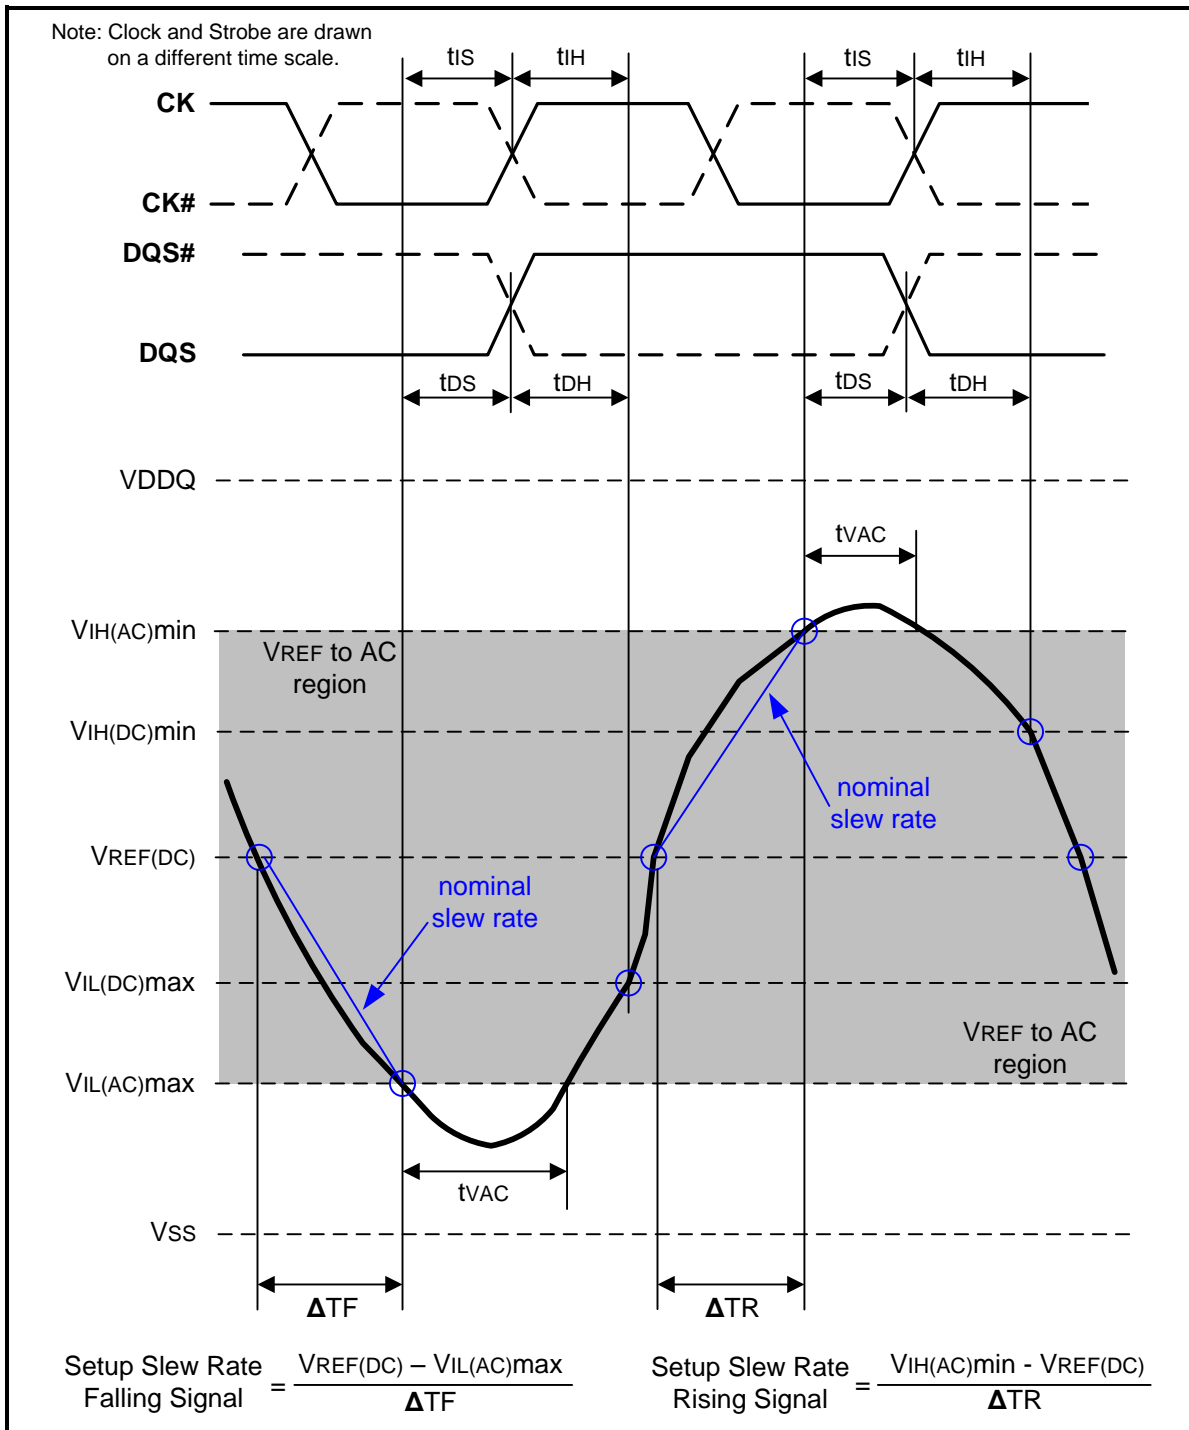
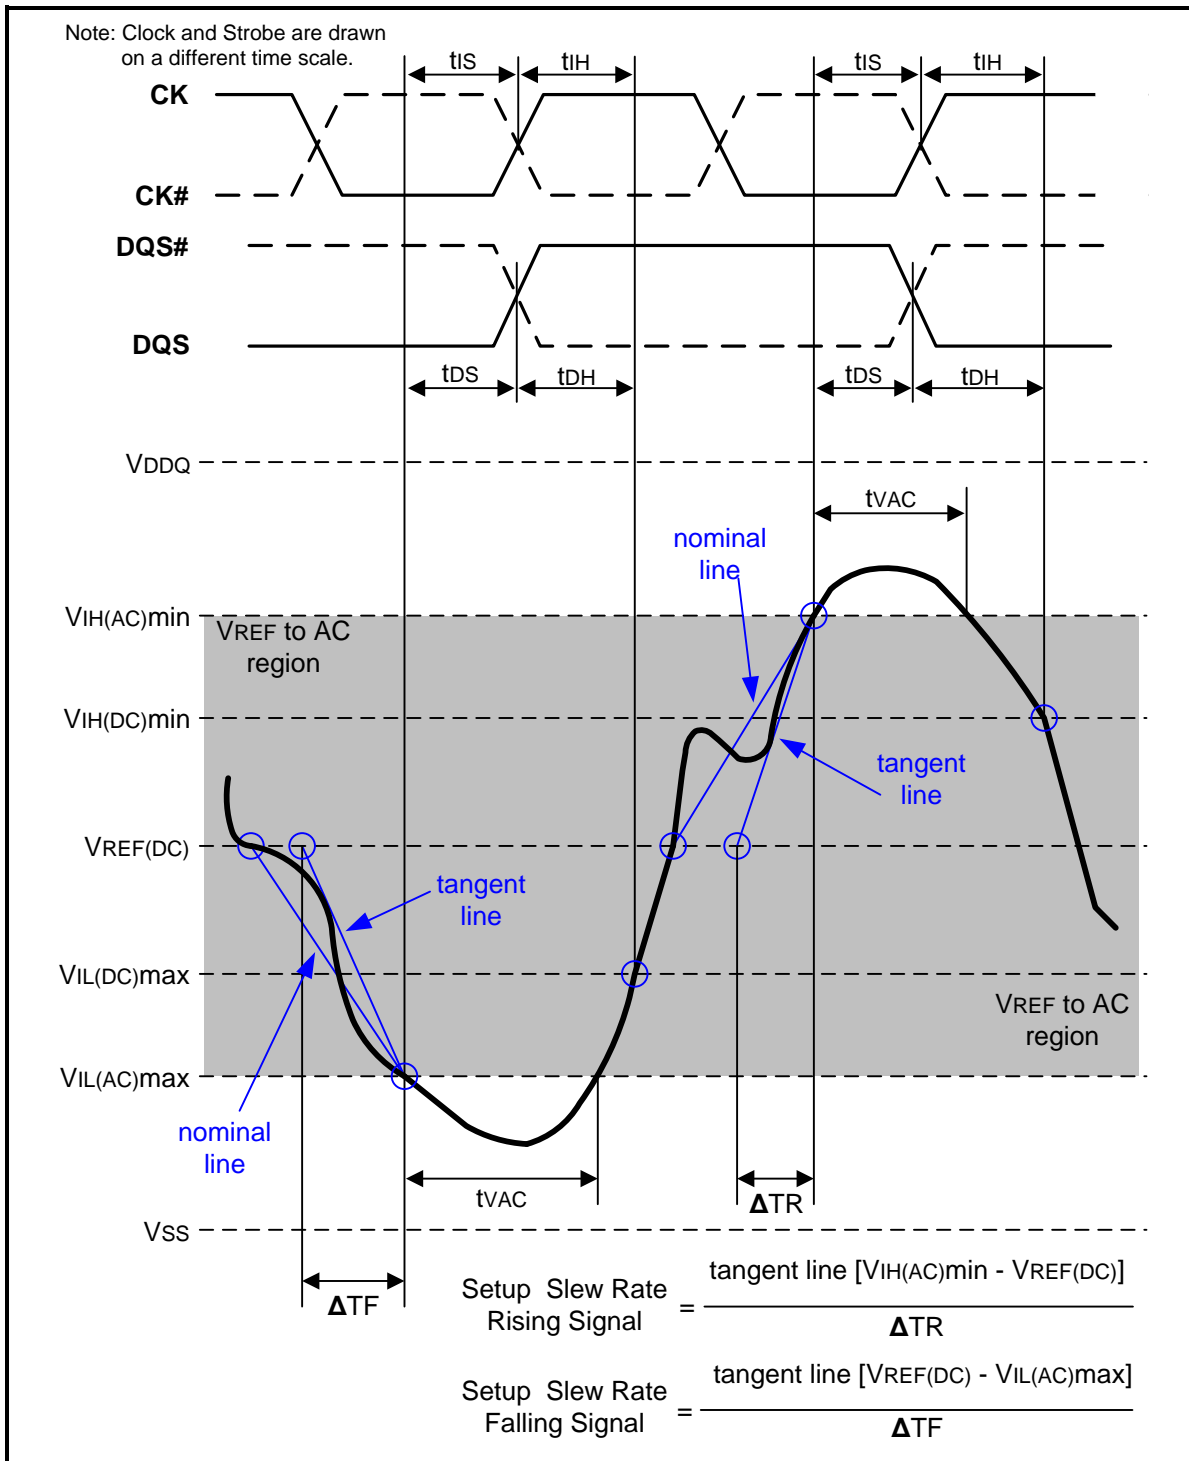

Figure 107 – Illustration of nominal slew rate and tvAC for setup time tDS (for DQ with respect to strobe) and tIS (for ADD/CMD with respect to clock)
Figure 109 – Illustration of tangent line for setup time tds (for DQ with respect to strobe) and tis (for ADD/CMD with respect to clock)
Setup (t_{IS}) nominal slew rate for a rising signal is defined as the slew rate between the last crossing of $V_{REF(DC)}$ and the first crossing of $V_{IH(AC)min}$. Setup (t_{IS}) nominal slew rate for a falling signal is defined as the slew rate between the last crossing of $V_{REF(DC)}$ and the first crossing of $V_{IL(AC)max}$. If the actual signal is always earlier than the nominal slew rate line between shaded 'VREF(DC) to AC region', use nominal slew rate for derating value (see Figure 107). If the actual signal is later than the nominal slew rate line anywhere between shaded 'VREF(DC) to AC region', the slew rate of a tangent line to the actual signal from the AC level to DC level is used for derating value (see Figure 109).
Setup (tDS) nominal slew rate for a rising signal is defined as the slew rate between the last crossing of VREF(DC) and the first crossing of VIH(AC)min. Setup (tDS) nominal slew rate for a falling signal is defined as the slew rate between the last crossing of VREF(DC) and the first crossing of VIL(AC)max (see Figure 107). If the actual signal is always earlier than the nominal slew rate line between shaded 'VREF(DC) to AC region', use nominal slew rate for derating value. If the actual signal is later than the nominal slew rate line anywhere between shaded 'VREF(DC) to AC region', the slew rate of a tangent line to the actual signal from the AC level to DC level is used for derating value (see Figure 109).